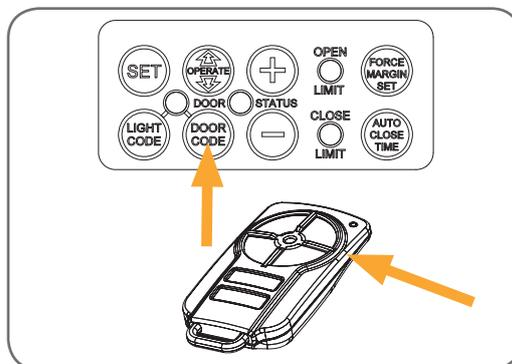

fig 34
- Place a piece of timber approximately 40mm high on the floor directly under the door (Fig. 34).
- Briefly press the DOOR CODE button two (2) times, then press it again and hold (will beep three times on third press (Fig. 34)).
- Press one of the four buttons on the transmitter for two (2) seconds, pause for two (2) seconds, then press the same button again for two (2) second.